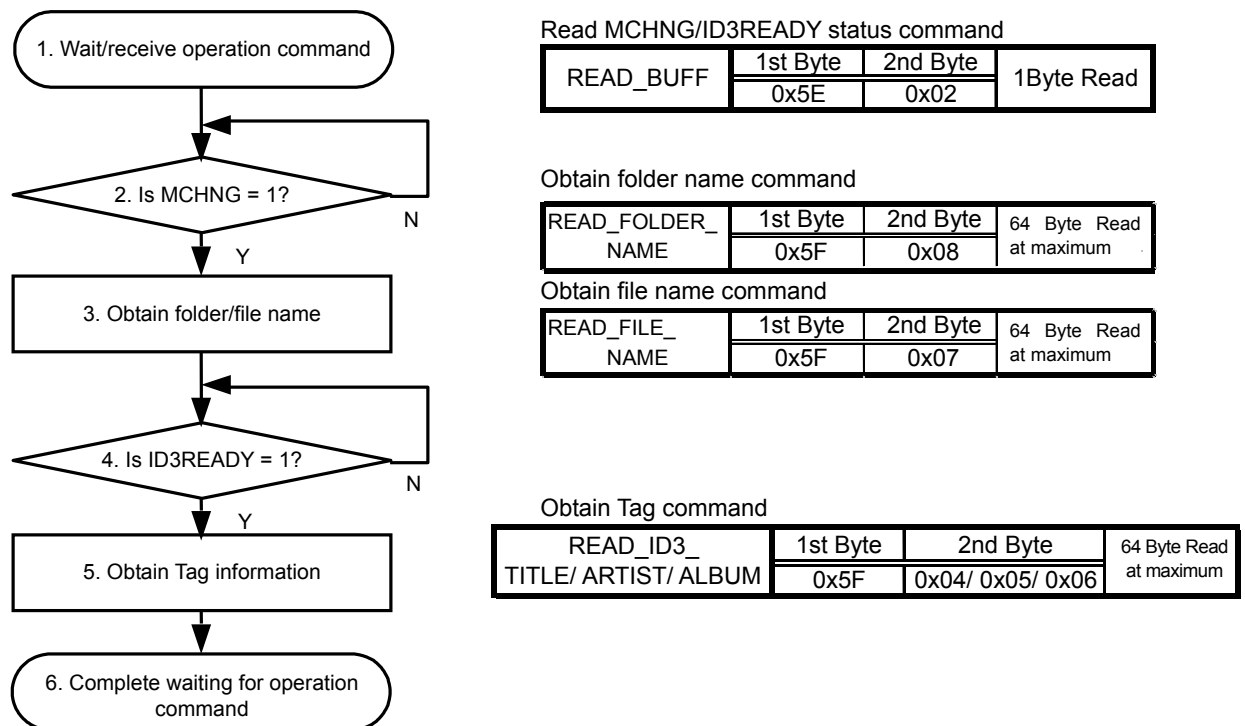

Figure V.2.7 Operation Flow before Starting Playing
Figure V.2.7 shows the operation flow right before starting playing in the case of (2).